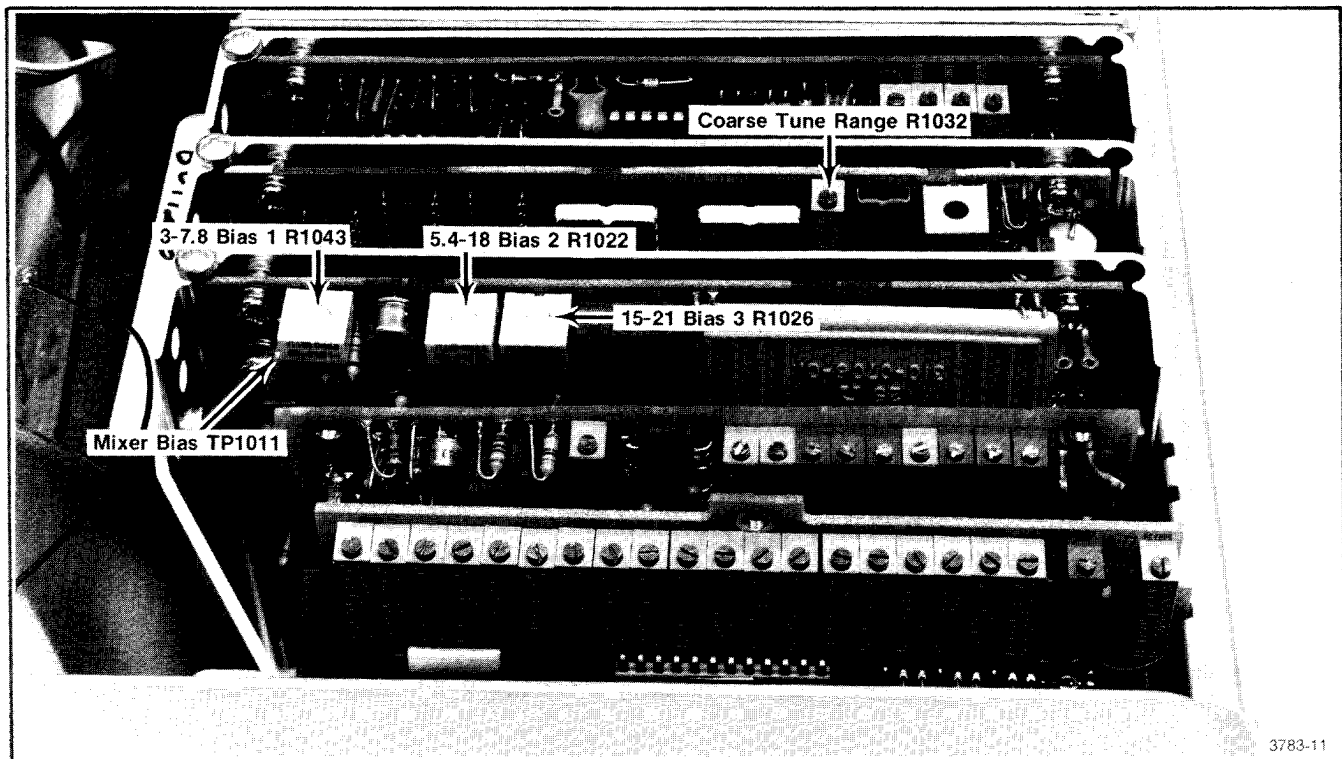

Fig. 3-34. 1st LO Driver adjustments and test point locations.
a. Switch the FREQUENCY RANGE control to the 3.0—7.1 GHz band. Adjust Bias 1 (R1043) on the 1st LO Driver (Fig. 3-34) for 0.25 V at TP1011.